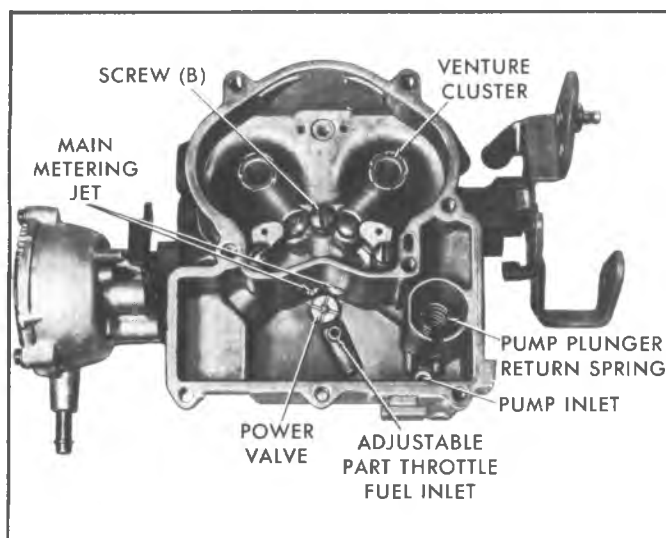

Fig. 5C—Float Bowl
1. Remove pump plunger return spring from inside pump well. Then remove aluminum check ball from bottom of pump well by inverting bowl (Fig. 5C).
1. Install two main metering jets into bottom of float bowl (Fig. 5C).